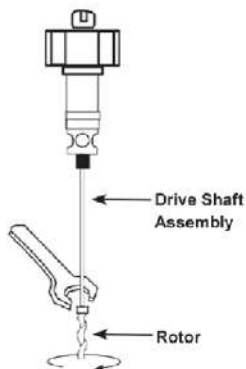

Figure 8
10.Hold the drive shaft in a fixed position and loosen the rotor(counterclockwise) located at the bottom of the drive shaft (see Figure8).
6.Thread rotor onto drive shaft (see Figure 8)